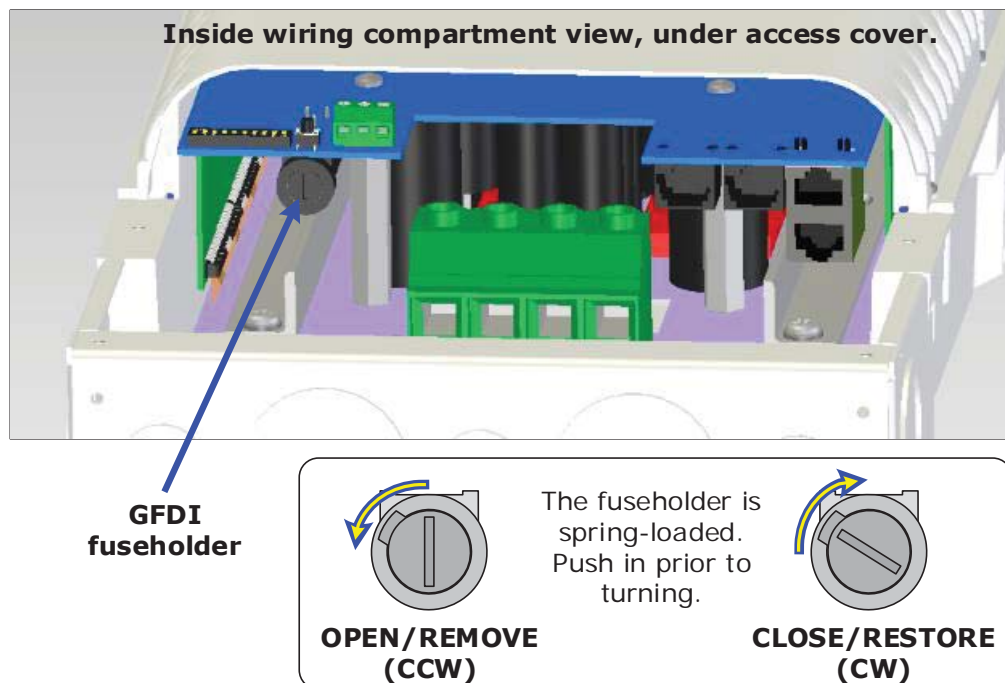

Figure 5-1, GFDI Fuse Location (Access Cover Removed)
2. Locate the GFDI fuse holder (see Figure 5-1).
Info: The fuseholder is spring-loaded, so it will need to be pushed in before turning. Push-in and turn the cap on the fuseholder Counter Clock-Wise (CCW) to open/remove the cap and Clock-Wise (CW) to close/replace the cap (see Figure 5-1).